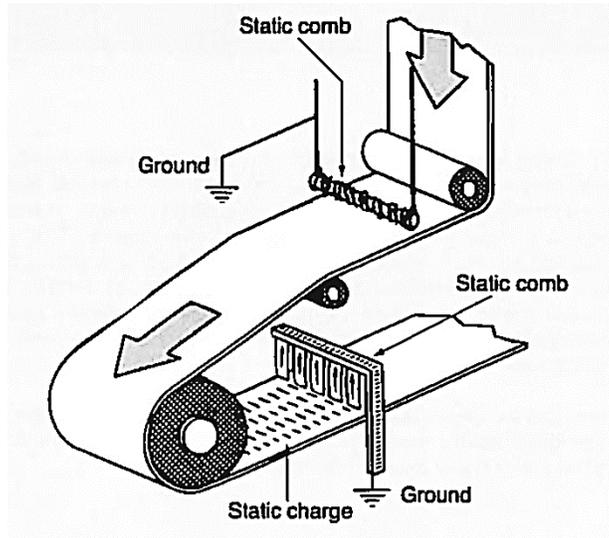

Figure 2.3: Static Eliminators
2-24 A **static comb** is a metal bar having many points. It may be a bar with metal flaps hanging from it, or it may be a wire rod covered with metal tinsel. Both forms are shown in Figure 2.3.
- 2-25 When a grounded static comb is brought close to a charged surface, as shown in Figure 2.3, the charge on the surface induces the opposite charge on the comb. The induced charge becomes highly concentrated at the points on the comb, just as shown in Figure 2.2.